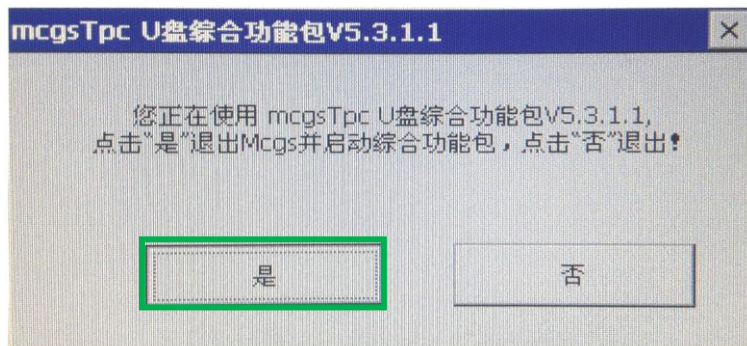

Fig. 2
4. On the touchscreen, the window (displayed at Fig. 2) will appear. Press the button on the left:
After the firmware has successfully been updated, the touchscreen will reboot automatically. During rebooting unplug the USB stick from the touchscreen, otherwise the firmware-update process will start again (the window displayed at Step 4 - Fig. 2 will appear again).